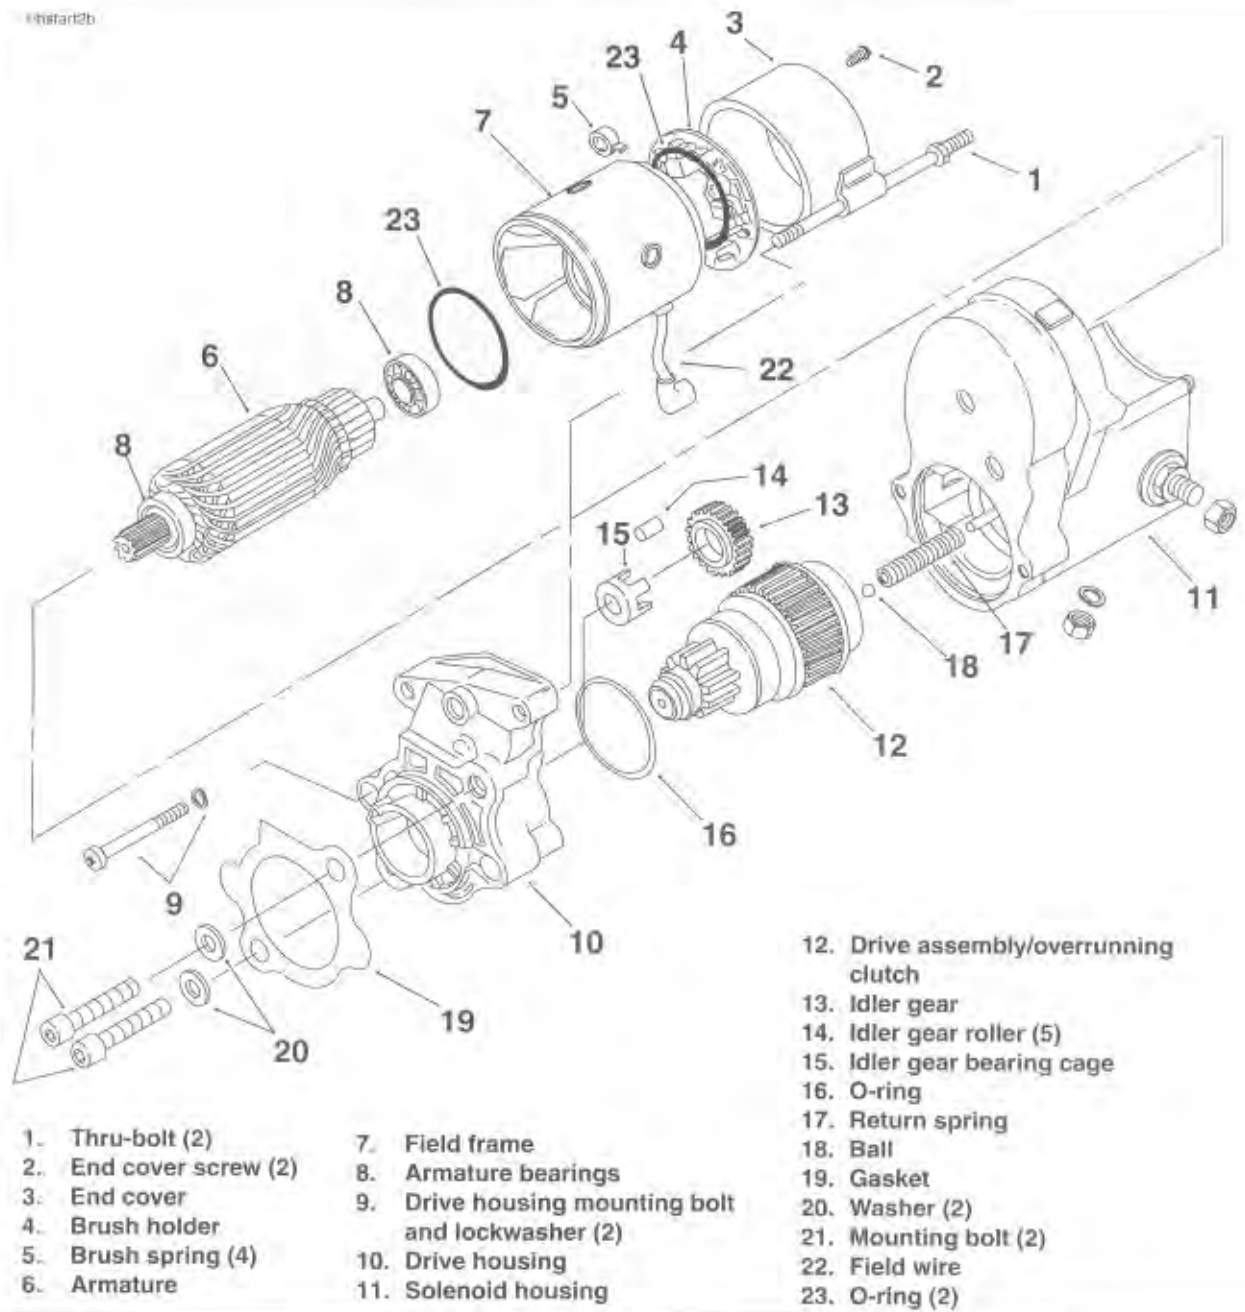

Figure 5-11. Starter Assembly
1. See Figure 5-11. Remove field wire (22).
- See Figure 5-11. Remove armature (6) and field frame (7).
15. See Figure 5-11. Check armature bearings (8) and replace if necessary.
2. See Figure 5-11. When installing drive assembly components, open end of idler bearing cage (15) faces toward solenoid.
3. When installing drive housing (10) to solenoid housing (11), use new O-rings (16). Be sure to install return spring (17) and ball (18).
4. Lubricate armature bearings (8) and felt washer (20) (883 only) with high temperature grease, such as LUBRIPLATE 110. Install armature (6) and frame (7) to solenoid housing (11).
5. Install brushes and brush holder (4).
6. Install end cover (3) with screws (2) and O-rings (1200 only).
7. Install bolts (1).